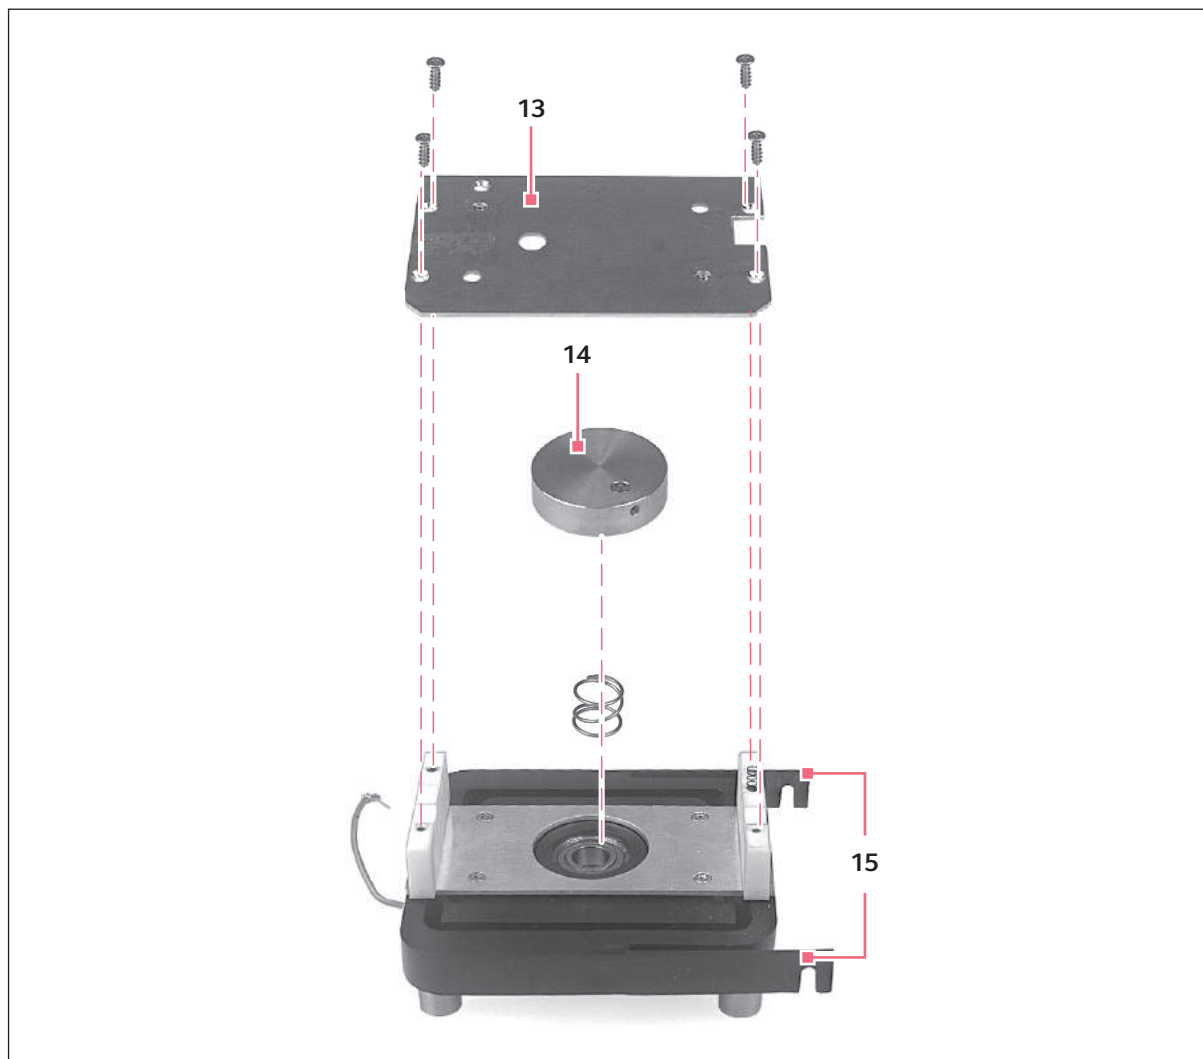

Fig. 6-3: Oscillating frame
1. Remove the upper plate (see Fig. 6-3 on p. 26) from the oscillating frame.
2. Loosen the Allen screw of the imbalance disk (see Fig. 6-3 on p. 26) and remove the imbalance disk together with the spring.
3. Remove the clamping screws (see Fig. 6-3 on p. 26) from the oscillating frame.